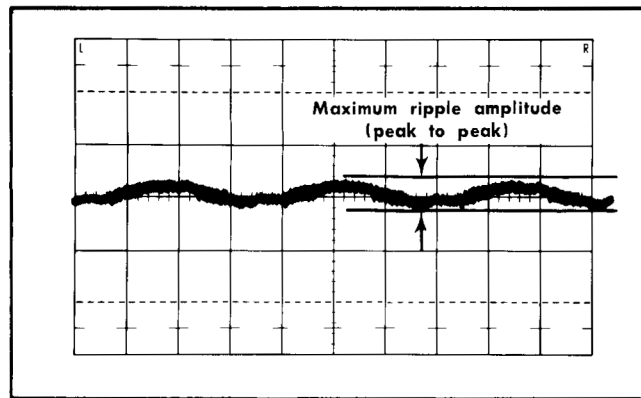

Fig. 6-6. Typical test oscilloscope display checking power supply ripple amplitude.
- f. Check—Test oscilloscope display for Power Supply ripple amplitude (see Fig. 6-6) not exceeding the maximum value given in Table 6-1.